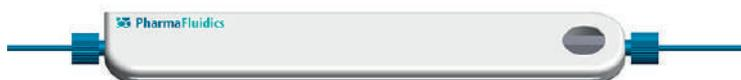

Figure 2: Image of the μ PAC™ capLC column
- Attach the clip end of the cable to the stainless-steel union grounding point located near the outlet of the μ PAC™ capLC column, as indicated in Figure 2.